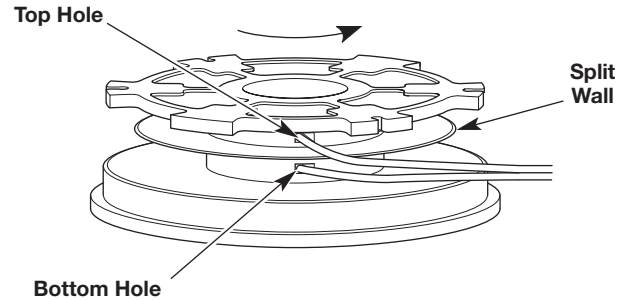

Fig. 19
2. Using one split end, insert one line into the top hole and the other line into the bottom hole in the inner reel (Fig. 19).